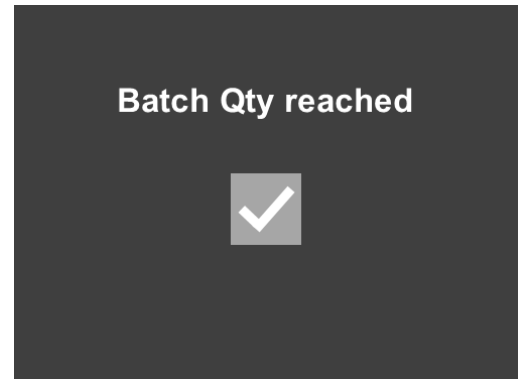

Figure 8.4.7
- When the batch size is reached, an information message appears on the display, which must be confirmed by touching it. Only then can the crimping process be continued. See Figure 8.4.7.